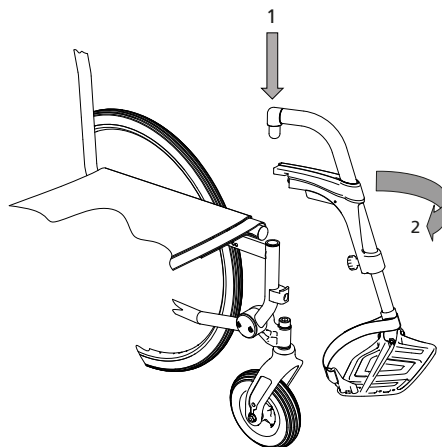

fig.9
1. Insert the leg rest into the guide on the wheelchair from above (1, Fig. 9). When doing so, the leg rest must be angled outwards.
2. Swivel the leg rest forwards (2, Fig. 9). You must hear and feel the leg rest engage.